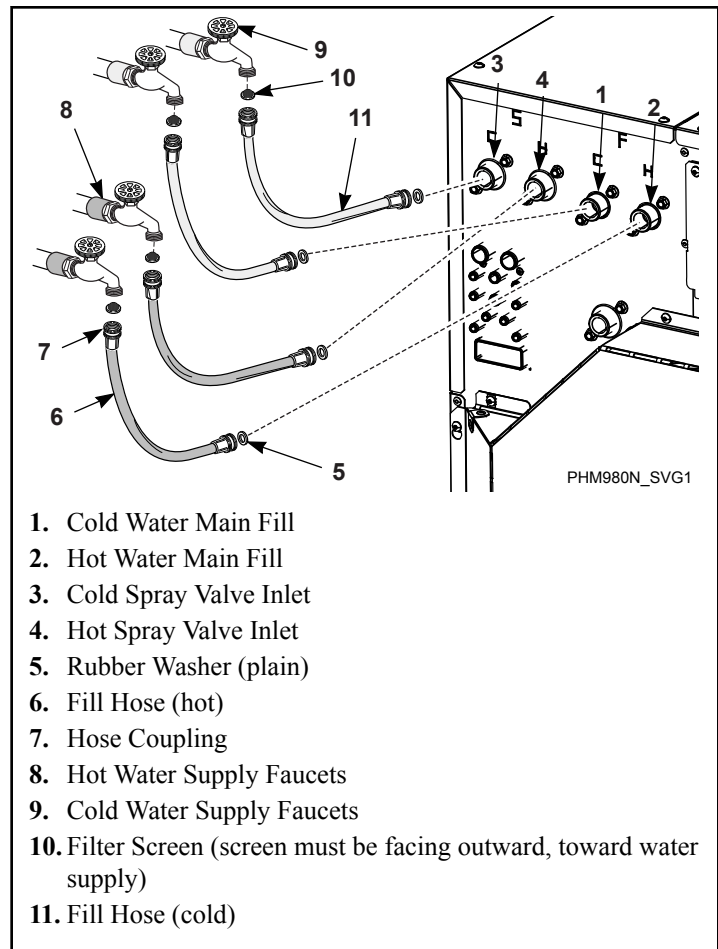

Figure 22
1. Before installing hoses, flush the building's water system at the machine connection valves for at least two (2) minutes.
2. Remove the four (4) plain rubber washers and four (4) filter screens from the accessories bag supplied with the machine.
3. Install one (1) plain rubber washer onto one end and one (1) filter screen into the other end of each fill hose. The screens must be facing outward toward the water supply. Refer to *Figure 22*.
6. Screw the coupling with the plain rubber washer of one (1) of the hoses attached to a hot water connection onto the main fill valve inlet (marked "H", beneath the "F" mark). Screw the coupling with the plain rubber washer of the other hot water hose onto the spray valve inlet (marked "H", beneath the "S" mark). Tighten to finger-tight.
7. Screw the coupling with the plain rubber washer of one (1) of the hoses attached to a cold water connection onto the main fill valve inlet (marked "C", beneath the "F" mark). Screw the coupling with the plain rubber washer of the other cold water hose onto the spray valve inlet (marked "C", beneath the "S" mark). Tighten to finger-tight.